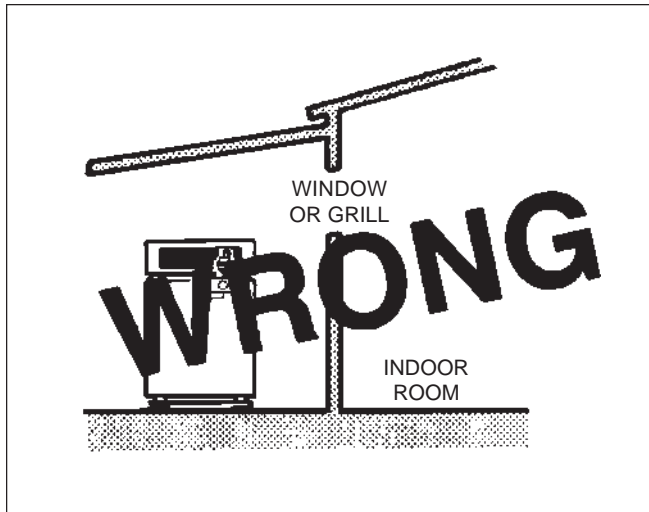
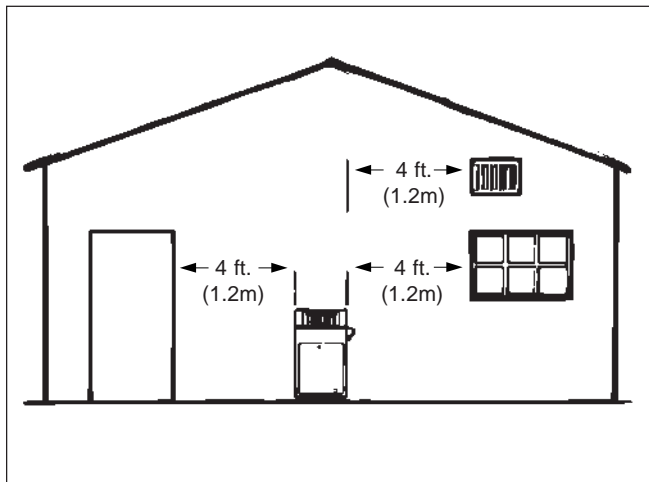

Figure 9. Incorrect outdoor installation.
Figure 10. Outdoor location installation.
Locate the heater in an open, unroofed area. Do not locate the heater below or adjacent to any doors, windows, louvers, grills, etc., which connect in any way with an inhabited area of a building, even though the access might be through another structure such as a garage or utility room (see Figure 9 and Table 1). There must be a minimum of 4 feet (1.22 m) horizontally and vertically between the heater and any door, window, or gravity inlet to a building (see Figure 10).
8. Remove the drain valves and plug. There is one hex plug on the left side, near the rear of the jacket. The drain valves are located on the left side and right side of the heater (see Figure 9).